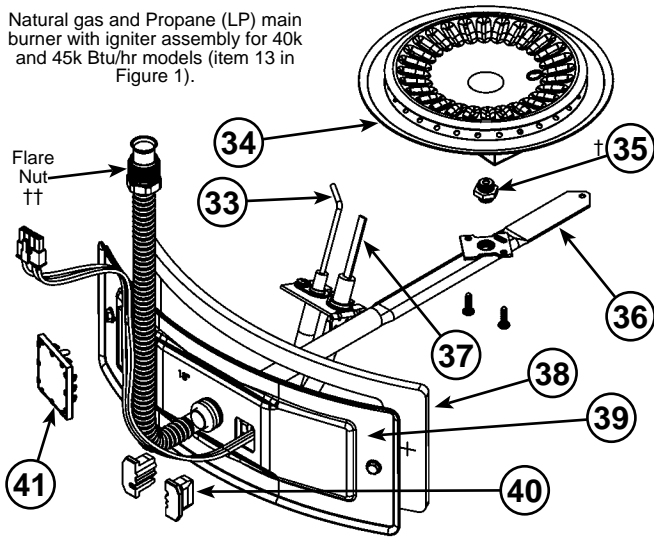
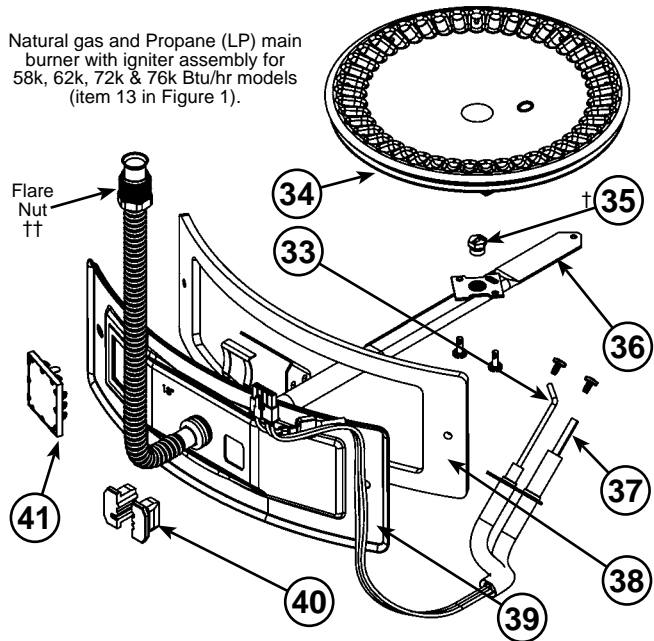

Figure 52.
Figure 53.
- 13 Manifold Door Assembly (behind outer door) (see Figure 3 & Figure 4) (see also Figure 52 & Figure 53)
- 33 Flame Sensor Rod (see Figure 3 & Figure 4) (see also Figure 52 & Figure 53)
- 34 Sheet Metal Burner (see Figure 3 & Figure 4) (see also Figure 52 & Figure 53)
- 35 Gas Orifice (see Figure 3 & Figure 4) (see also Figure 52 & Figure 53)
- 36 Gas Manifold (see Figure 3 & Figure 4) (see also Figure 52 & Figure 53)
- 37 Hot-Surface Igniter (see Figure 3 & Figure 4) (see also Figure 52 & Figure 53)
- 38 Manifold Door Gasket (see Figure 3 & Figure 4) (see also Figure 52 & Figure 53)
- 39 Manifold Door (see Figure 3 & Figure 4) (see also Figure 52 & Figure 53)
- 40 Two Piece Grommet With Clip (see Figure 3 & Figure 4) (see also Figure 52 & Figure 53)
- 41 Viewport (see Figure 3 & Figure 4) (see also Figure 52 & Figure 53)